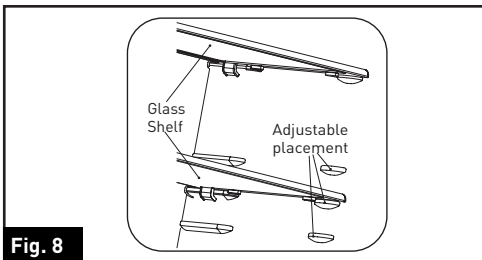

Fig. 8
- When you return the shelves, make sure there is no obstacle behind and gently push them into the position. (Fig. 8)